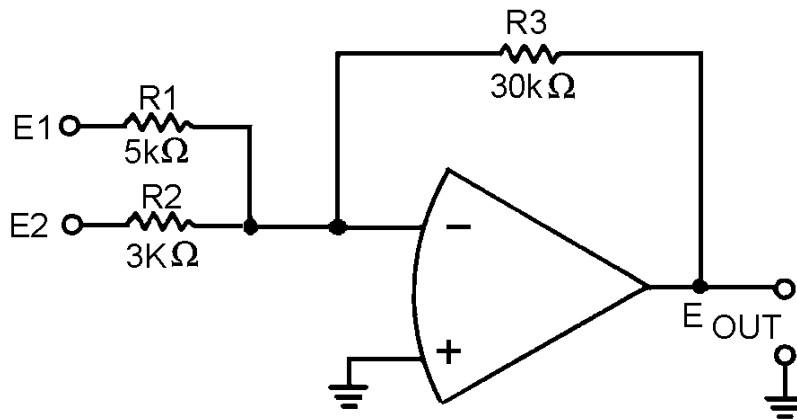

Figure 3-27.—Circuit for Q31 through Q33.
Refer to figure 3-27 in answering Q31 through Q33.
- Q-31. What type of circuit is figure 3-27?